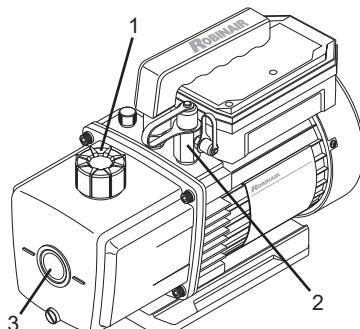
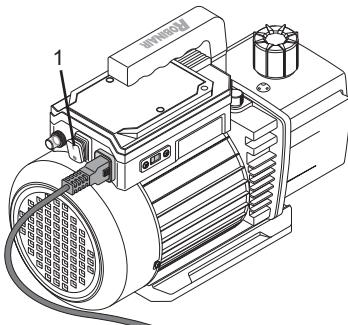

Figure 4
Figure 5
2. Remove exhaust/oil fill cap (1) (*see Figure 4*).
3. Add oil to oil reservoir until the oil level is aligned with the marks on either side of the sight glass (3) (*see Figure 4*).
4. Replace exhaust/oil fill cap (1) (*see Figure 4*).
5. Remove one inlet port cap (2) (*see Figure 4*).
6. Connect unit to power source and switch vacuum pump ON (1) (see *Figure 5*).
8. After pump has run for one minute, Switch pump OFF (1) (see *Figure 5*), check oil level in sight glass (3) (see *Figure 4*), and add oil if necessary.